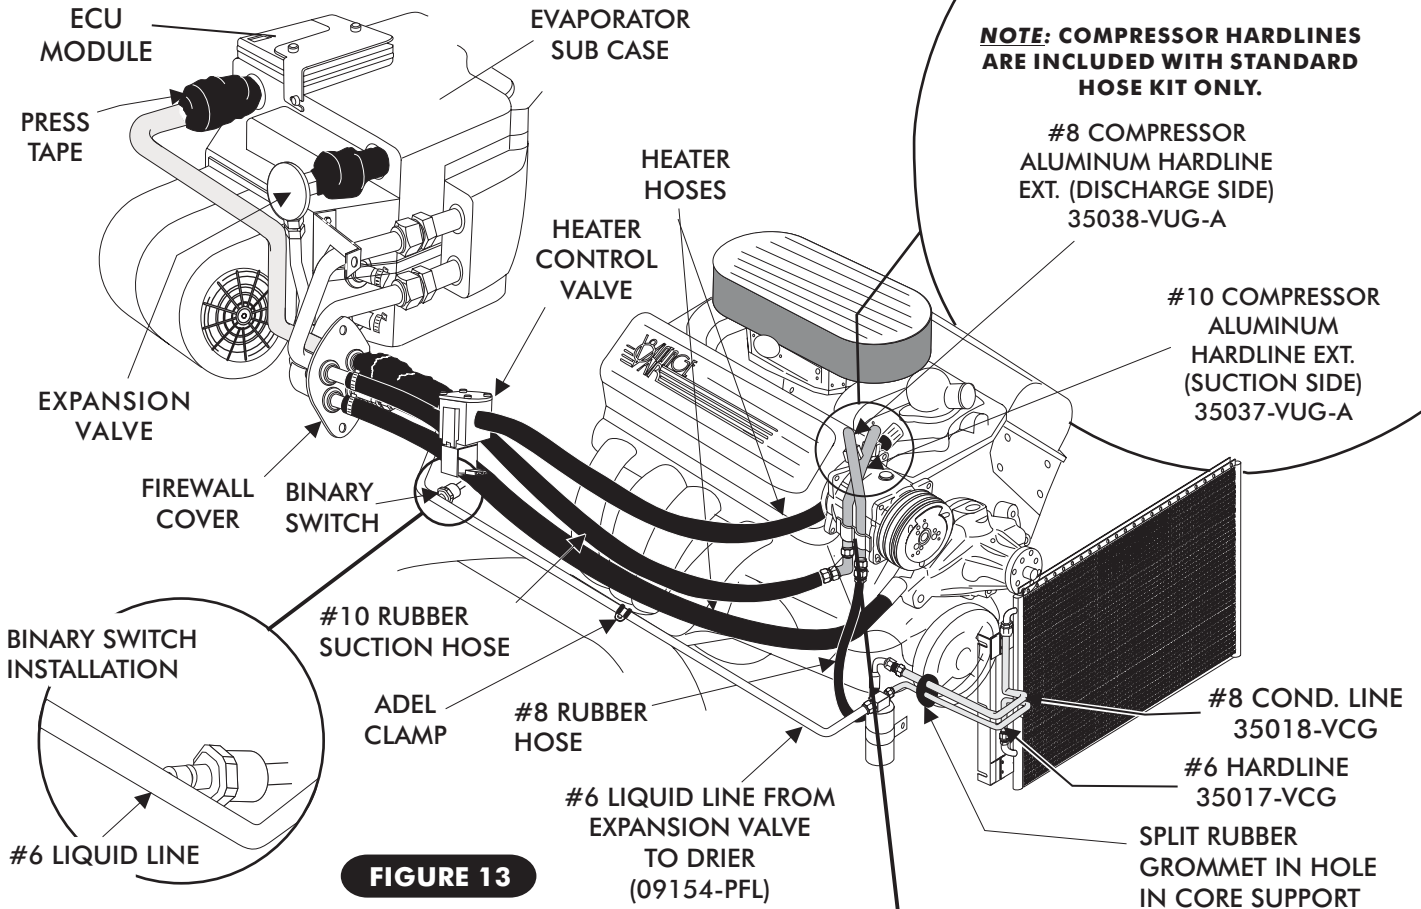

FIGURE 13
- LOCATE THE TWO COMPRESSOR ALUMINUM HARDLINE EXTENSIONS. SEE FIGURE 13, PAGE 14.
- LOCATE THE #10 COMPRESSOR ALUMINUM HARDLINE. LUBRICATE (1) #10 O-RING AND INSTALL ON THE FEMALE O-RING END. CONNECT THIS LINE TO THE #10 SUCTION PORT ON THE COMPRESSOR, AND TIGHTEN. SEE FIGURE 13, PAGE 14.
- LOCATE THE #8 RUBBER HOSE. THIS HOSE WILL CONNECT TO THE #8 ALUMINUM COMPRESSOR HARDLINE AND #8 ALUMINUM HARDLINE FROM CONDENSER. LUBRICATE (2) #8 O-RINGS, AND INSTALL ONE ON EACH END OF THE #8 RUBBER HOSE. ROUTE HOSE AS SHOWN IN FIGURE 13, PAGE 14 AND TIGHTEN. **NOTE: THE 90° DEGREE HOSE END CONNECTS TO THE CONDENSER HARDLINE.**
- LOCATE THE #10 RUBBER HOSE. THIS HOSE WILL CONNECT TO THE #10 ALUMINUM COMPRESSOR HARDLINE AND #10 ALUMINUM HARDLINE FROM EVAPORATOR. LUBRICATE (2) #10 O-RINGS, AND INSTALL ONE ON EACH END OF THE #10 RUBBER HOSE. ROUTE HOSE AS SHOWN IN FIGURE 13, PAGE 14 AND TIGHTEN. **NOTE: THE 90° DEGREE HOSE END CONNECTS TO THE COMPRESSOR HARDLINE.**
- INSTALL THE #6 LIQUID LINE TO DRIER WITH LUBRICATED O-RING AND TIGHTEN. FIGURE 13, PAGE 14
- INSTALL BINARY SWITCH ON #6 LIQUID LINE. SEE FIGURE 13, PAGE 14.
- SECURE THE #6 LIQUID LINE TO THE FENDER USING THE SUPPLIED ADEL CLAMP. SEE FIGURE 13, PAGE 14.